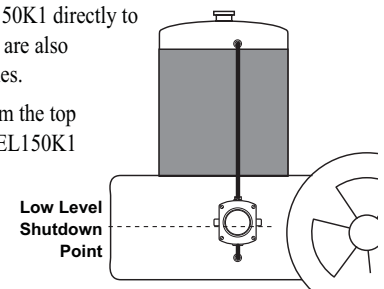

Figure 5:
- d. **FOU2**: set to 'ON' (Fig.5).